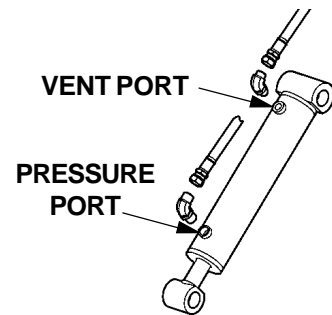

FIG. 39-1
5. Check the Hydraulic Cylinder. With the Platform on the ground, remove the Breather Plug or Vent Line from the Vent Port of the Cylinder (**FIG. 39-1**). Raise the Platform even with the bed. Allow pump motor to run two seconds more while you watch for hydraulic fluid at the Vent Port. A few drops of hydraulic fluid escaping the Vent Port is normal; however, if it streams from the Vent Port, Piston Seals are worn. Replace Seals.